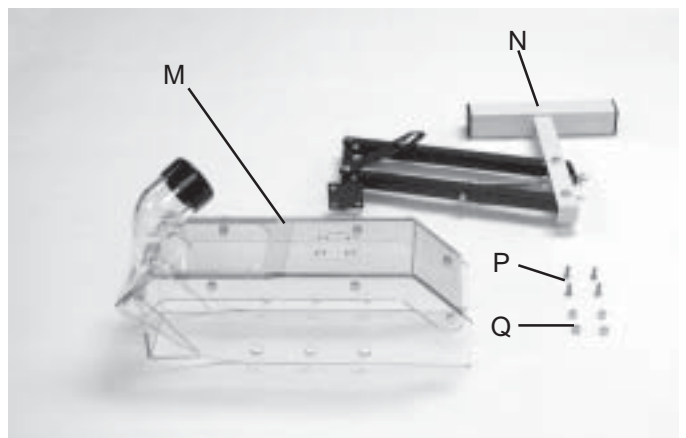

Fig. 18
17. Assemble basket body assembly (M) Fig. 18, to blade guard basket assembly (N) using the four (4) #10-32 x 5/8" flat head screws (P) and four (4) #10-32 locknuts (Q). Do not completely tighten screws at this time.